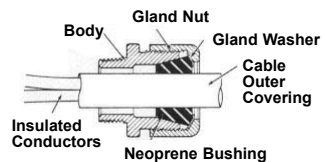

FIGURE 1
3. Install cable through body far enough to allow wire connections. Figure 1. If cable does not pass through body, remove sufficient outer covering of cable to pass conductors through the connector body.